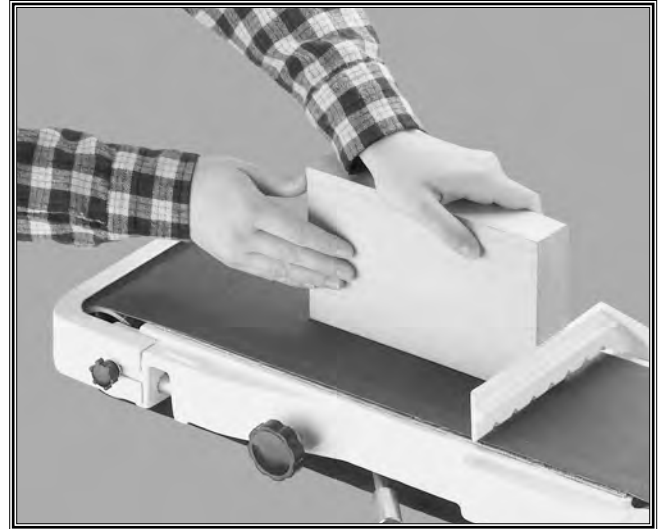

Figure 32. Sanding with back stop.
2. Place the workpiece against the surface of the sanding belt. Make sure you have both hands securely on the workpiece and keep fingers and hands away from sanding surface as shown in **Figure 32**.